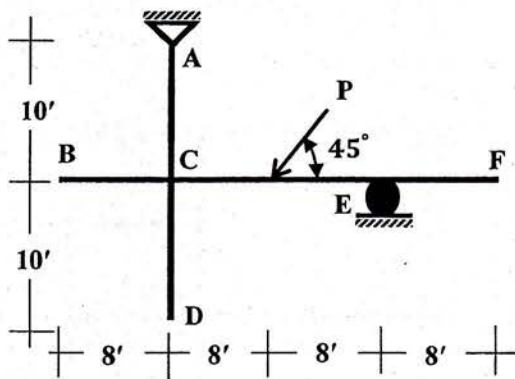

Figure 6
- [6] Horizontal deflection at point B is given $\Delta_{B(\rightarrow)} = 4''$ for the frame shown in Figure 6. Determine the value of the load P by using the Virtual Work Method. Given, $EI = 30 \times 10^6 \text{ k-in}^2$. (20)